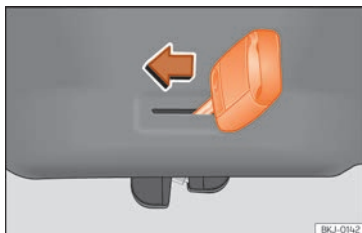

Fig. 9 Unlocking the rear lid manually.
- Insert the key in the groove and unlock the locking system, turning the key from right to left, as shown by the arrow » **Fig. 9**.